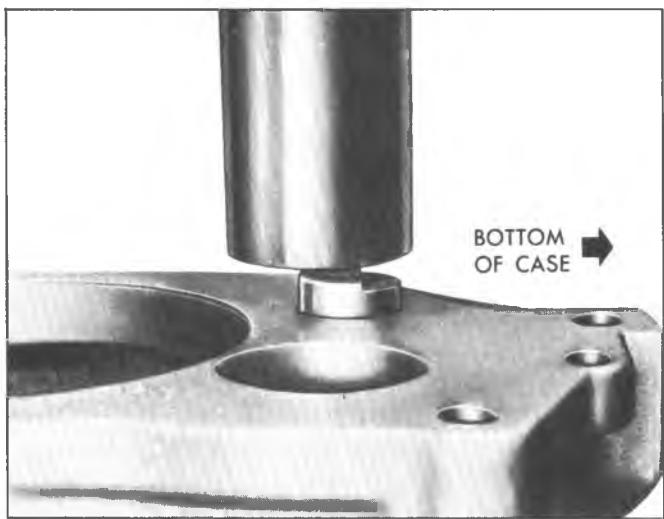

Fig. 16B--Installing Countershaft
5. Align countergear with shaft in rear and hole in front of case, and press countershaft into case (pushing assembly tool out front of case) until flat on shaft is flush with rear of case. Be sure thrust washers remain in place (fig. 16B).